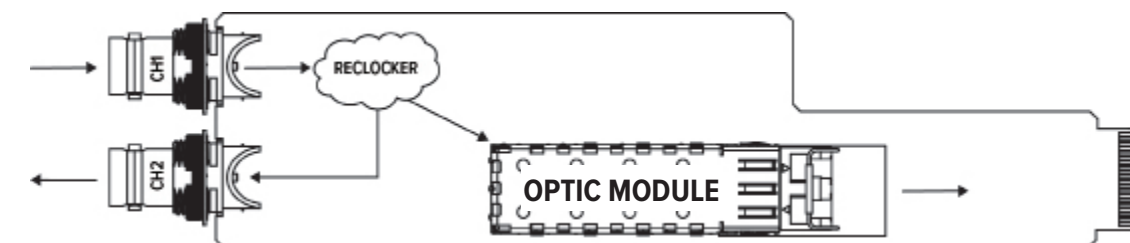

Figure 5. Sample Video Transmitter Signal Flow (1 SDI Input, 1 BNC Loop Out).
- Single Transmit (TX), see Figure 5.